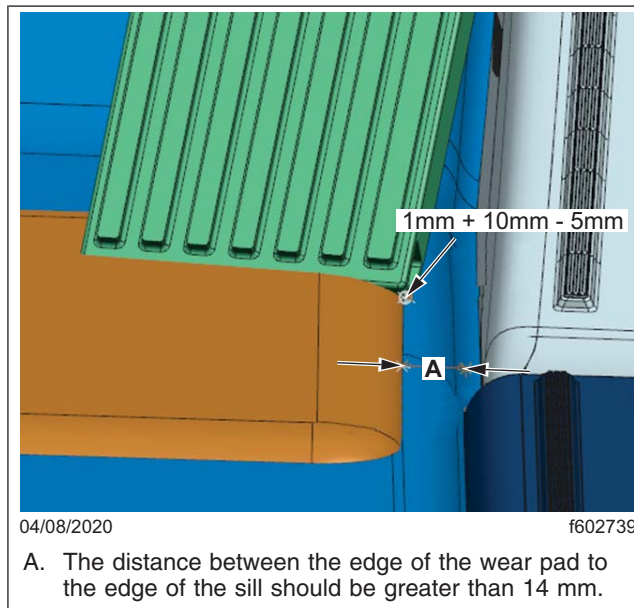

Fig. 3, Distance Between the Right Hand Side of Wear Pad to the Right Hand Side of the Throttle Pedal, RHD Vehicles
- For right hand drive (RHD) vehicles, see **Fig. 3** to determine the distance between the right hand side of the wear pad to the right hand side of the throttle pedal.